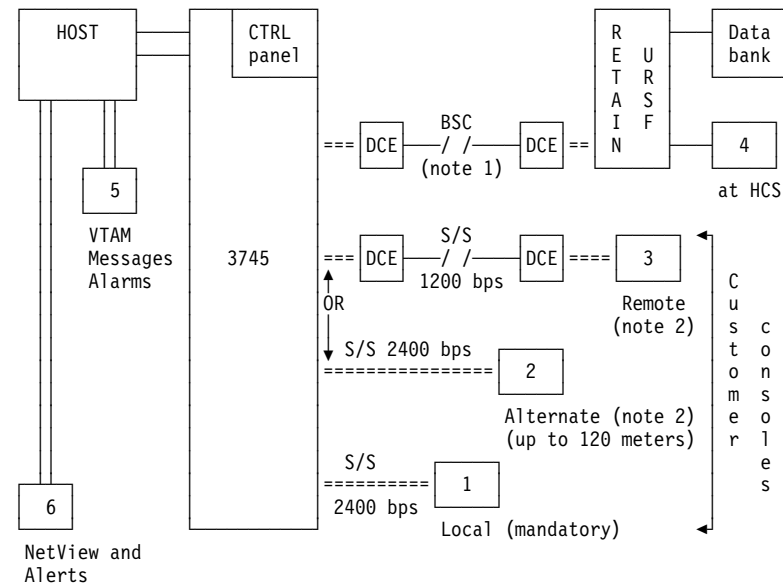

Figure 1-17. Possible Console Connection on the 3745
Figure 1-17 shows how the various users of MOSS functions can be connected to the MOSS of the 3745.
2. The local console is mandatory and all the other consoles shown in Figure 1-17 may not be present, depending on the customer's installation.